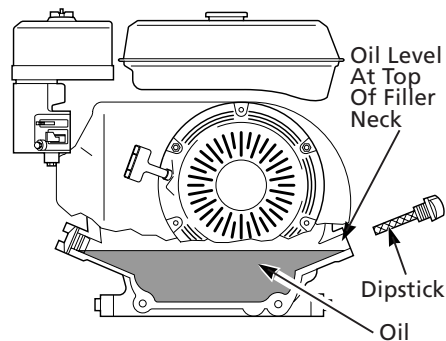

Figure 19 – Checking Oil Level (Model 3W735B Shown)
1. Remove dipstick (See Figure 19). Wipe dipstick clean.
3. If level is low, fill to top of oil filler neck (See Figure 19). Only use oil recommended in engine owner's manual. For Model 3WY47 only, fill to top dot on dipstick.